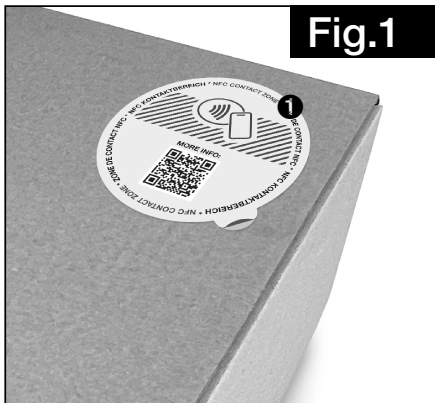

Fig.1
- Place the smartphone on the closed standard packaging (see Fig.1, contact point ❶ is labelled).